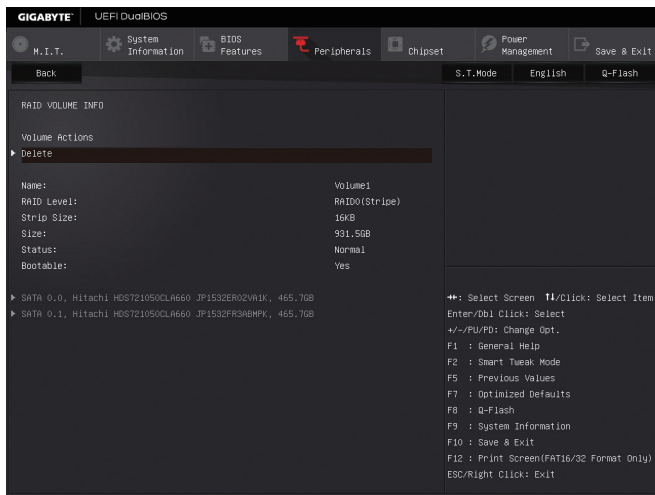

Figure 7
After completing, you'll be brought back to the **Intel(R) Rapid Storage Technology** screen. Under **RAID Volumes** you can see the new RAID volume. To see more detailed information, press <Enter> on the volume to check for information on RAID level, stripe block size, array name, and array capacity, etc. (Figure 7).